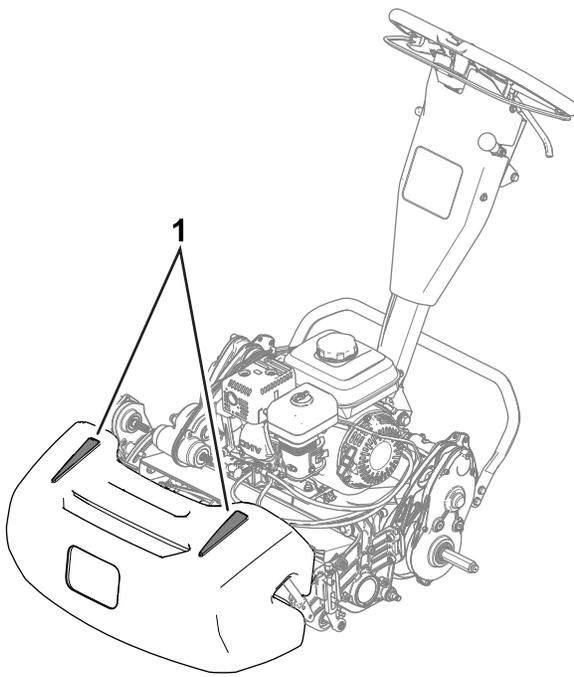

Figure 24
- To assist in maintaining a straight line across the green and to keep the machine an equal distance from the edge of the previous cut, use the alignment stripes on the basket (Figure 24).